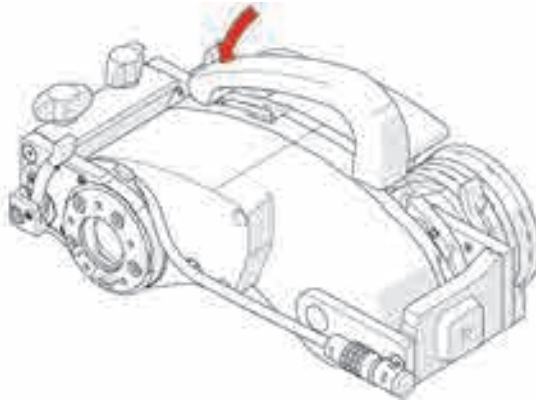

Figure 4-17 Pivot handle nose downward
2. Pivot the handle nose downward (see Figure 4-17 on page 104).